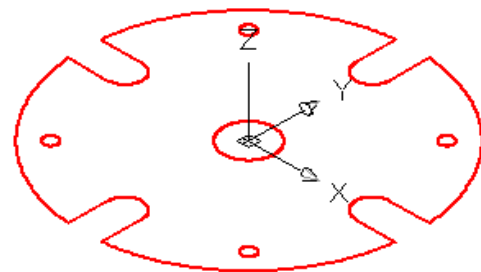

Figure Step 5
Step 5 On layer Model, draw the shape of the top of the object as shown in Figure Step 5. You should use the ARRAY command to speed up the construction.